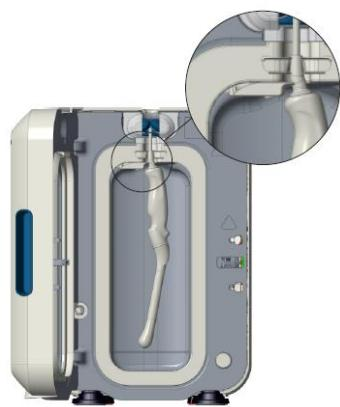

Figure 3
- **IPP** The trophon2 Integrated Probe Positioner (IPP) is a fully integrated mechanism in the trophon2 device (see Figure 3 below) that improves the positioning of all approved curved probes in the trophon2 chamber. Refer to the trophon2 User Manual for information on how to use the IPP.